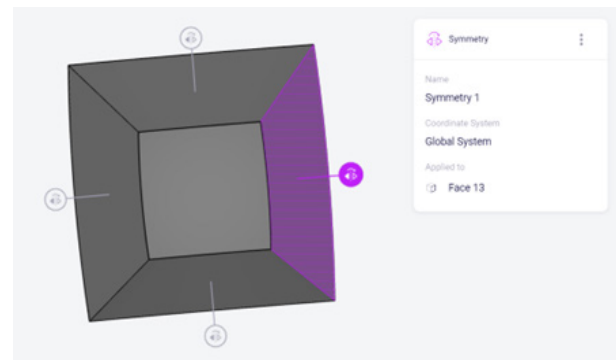

Figure 7: Using the Symmetry tool on the side of the partial hollow sphere
Step 1: Select the symmetry tool and apply it to the four side faces of partial sphere as shown in figure 7.